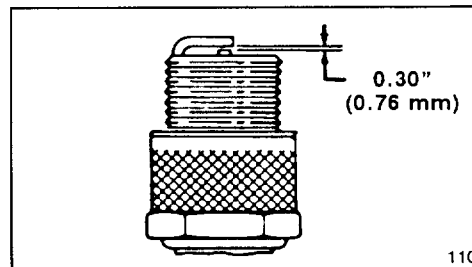

Figure 37
3. Set air gap between electrodes of new spark plug at 0.030" (0.76 mm) (Fig. 37). Next, install spark plug in cylinder head. Tighten plug to 15 ft-lb (20.4 N·m).